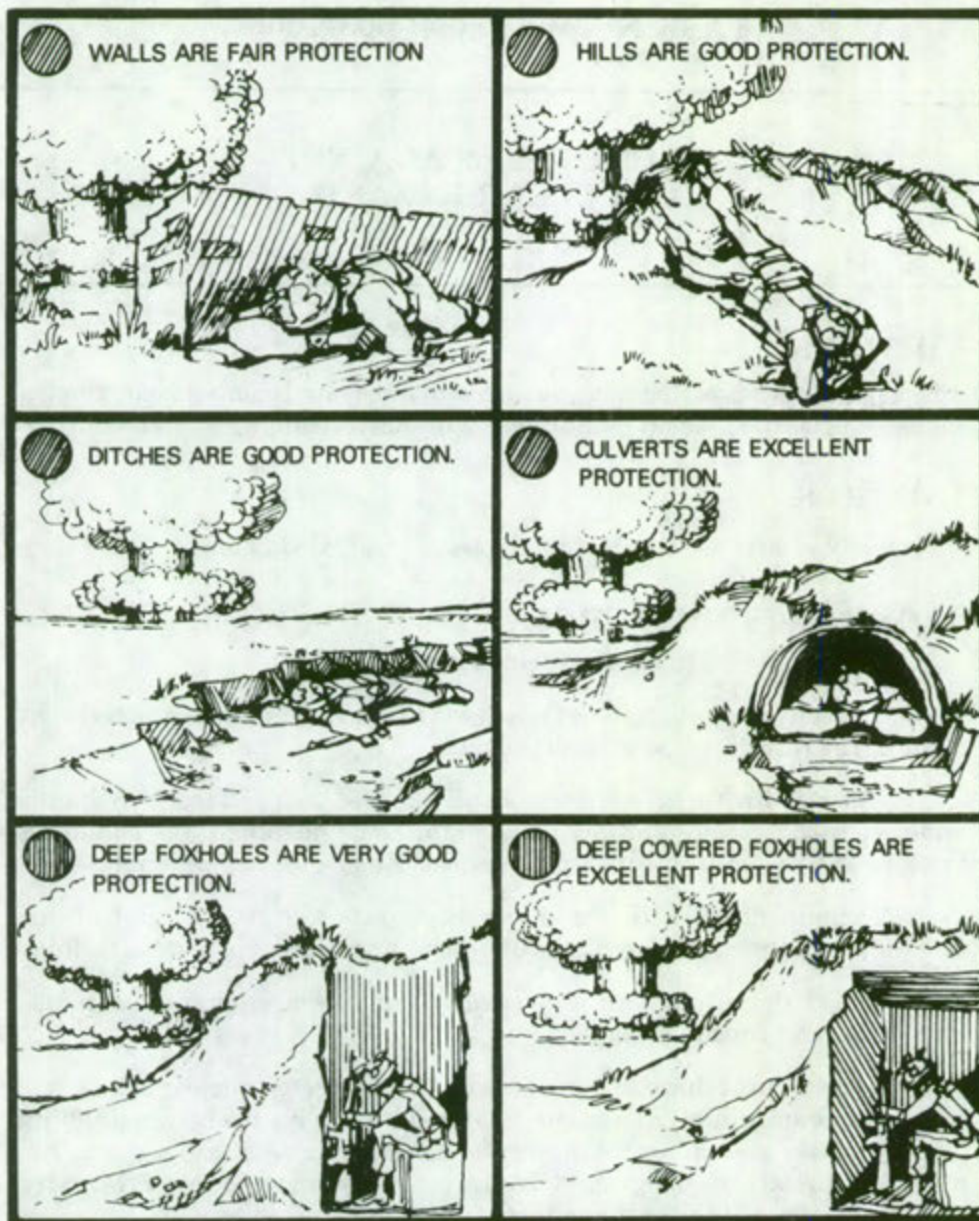

Figure 1.
3. When warned of an imminent nuclear attack, place yourself in the best protective position possible (figure 1).